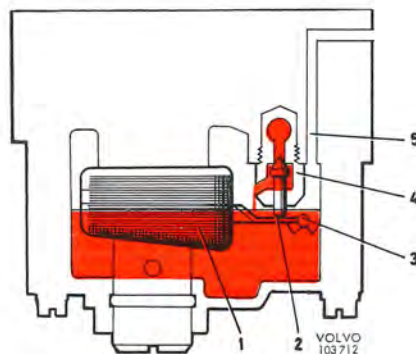

Fig. 2-57. Float system
Fuel flows into the floatchamber via the float valve (4, Fig. 2-57). The float (1), which is made up of twin expanded rubber floats, is carried on a bridge on the lower side of the carburetor housing. As the fuel level rises, the float lifts and, by means of the float arm (2) and tag, closes the needle on its seating when the correct level has been attained.